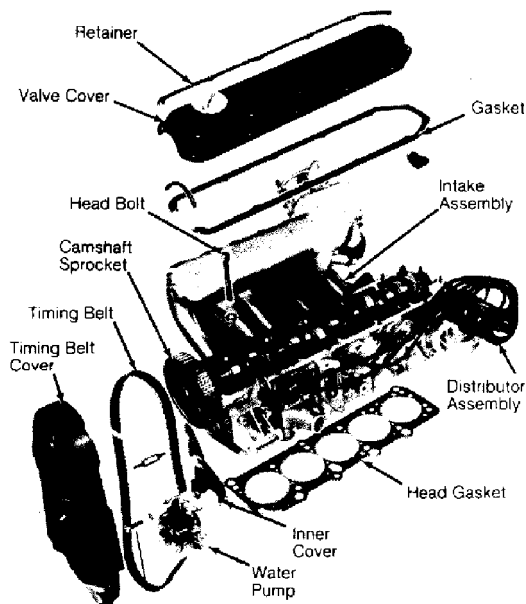
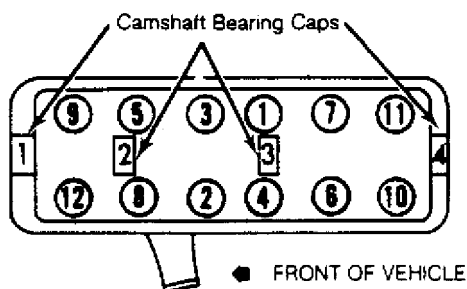

Fig. 1: Cylinder Head Assembly
Fig. 2: Cylinder Head Tightening Sequence
No removal procedure available from manufacturer. Cylinder head may be removed with engine in vehicle. Match mark all components for installation reference. Timing belt must be removed. See TIMING BELT R & I in this article. See Fig. 1. Remove cylinder head bolts in reverse sequence of installation. See Fig. 2.
2) Position head correctly and install bolts No. 9 and 11 to align head. Remove locating pins and install remaining bolts. Tighten cylinder head bolts in sequence to specifications. See Fig. 2. See TORQUE SPECIFICATIONS table at end of this article.
1) Remove upper radiator cover. Remove drive belts. Remove power steering pump with pressure hoses connected. Position pump aside. Remove valve cover and outer timing belt covers. See Fig. 1.